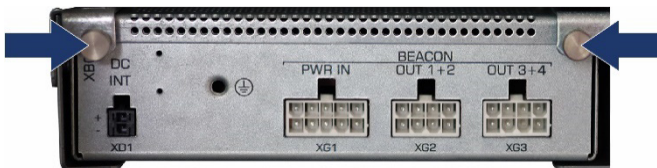

Fig. 5-1: Knurled screws on the chassis
- 2. Screw the back of the beacon control module to the chassis with the 2 knurled screws (→ Fig. 5-1). Ensure to screw the screws straight and precisely into the threads provided. Do not use excessive force to tighten the screws.